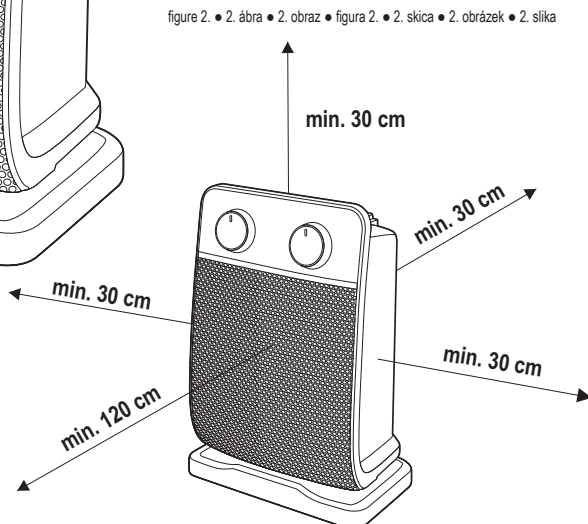

figure 2. • 2. ábra • 2. obraz • figura 2. • 2. skica • 2. obrázek • 2. slika
6. Never locate the unit directly in corners and observe the minimum mounting distances indicated in Figure 2. Always observe the health and safety regulations valid in the country of use.
3. Set the appliance on a stable and horizontal surface. The free flow of warm air must be ensured for proper operation, therefore, please note the minimum installation distances indicated in **Figure 2.**
4. Make sure, that the unit's mode selector (3) is in the OFF "0" position!